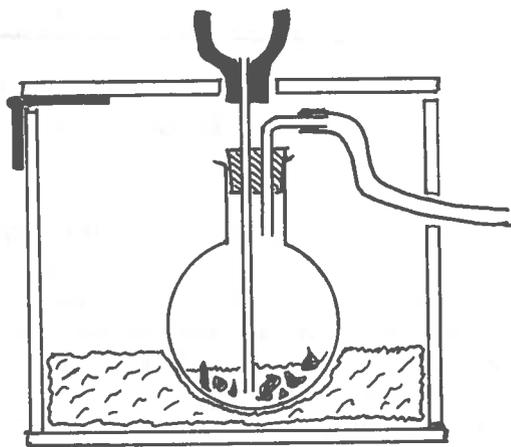

Fig.1.
3. As much as possible of the glassware and certainly the gas generating flask should be contained in a strong wooden box as shown in Fig.1. A round-bottomed flask will certainly be stronger than a flat-bottom type. A simple ring support for this can be fashioned from an old waste sheet of expanded polystyrene or from the base of a plastic 'Coke' bottle.